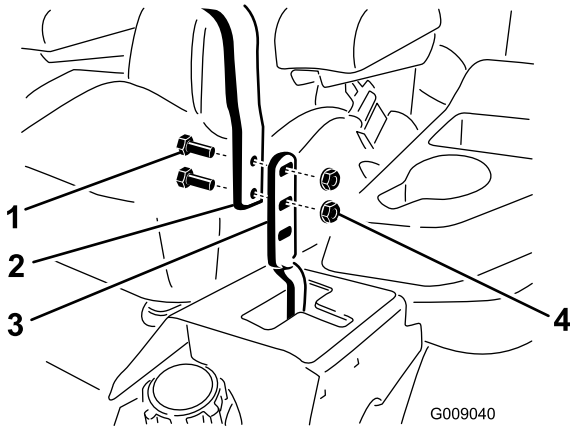

Figure 61
3. Loosen the bolts and flange nuts installed in the levers (Figure 61).
4. Align the levers in the front-to-rear position by bringing the levers together to the NEUTRAL position, slide them until they are aligned, and tighten the bolts (Figure 61).